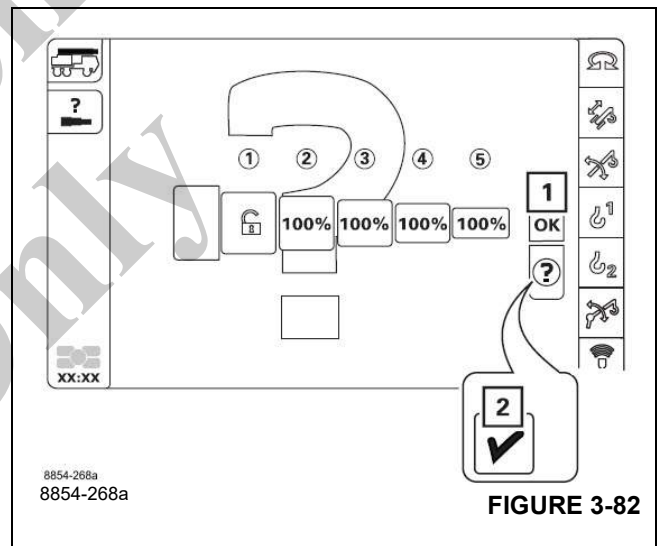

FIGURE 3-82
- Referring to (Figure 3-82), there are numerical values from 1 to 5 (in the call out circles). These indicate the telescoping boom sections (1 is T1, 2 is T2, etc.). Select each boom section, in turn, and select Enter to begin changing the value.
- After all the boom sections have a reset telescoping value, then this pattern can be confirmed with Item 1 in (Figure 3-82). If the check-mark (Item 2) appears, then the control system software has accepted the values and normal operation can resume. If the question-mark remains, then it has not been accepted. Further attempts can be used, or it may be necessary to correct malfunctions.